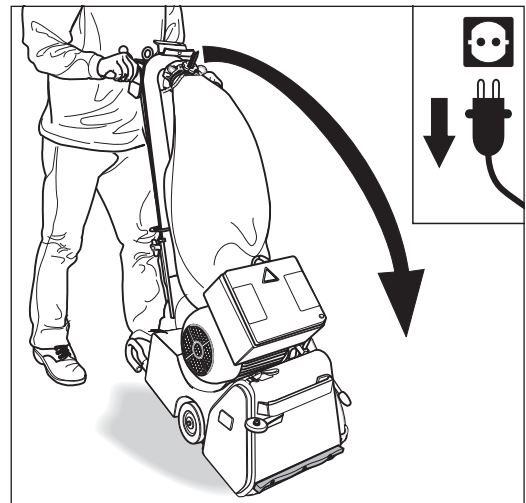
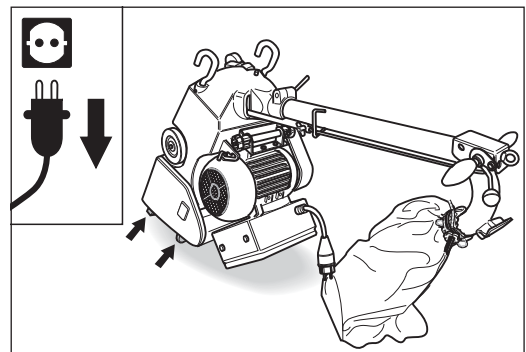

Fig. 95 **Pull the power plug out of the socket!** Tilt the machine forward over the bracket.
Fig. 96 **Ensure that the machine is standing securely!**
- 3 Tilt the machine forward over the bracket (fig. 95). **Ensure that the machine is standing securely (fig. 96)!**